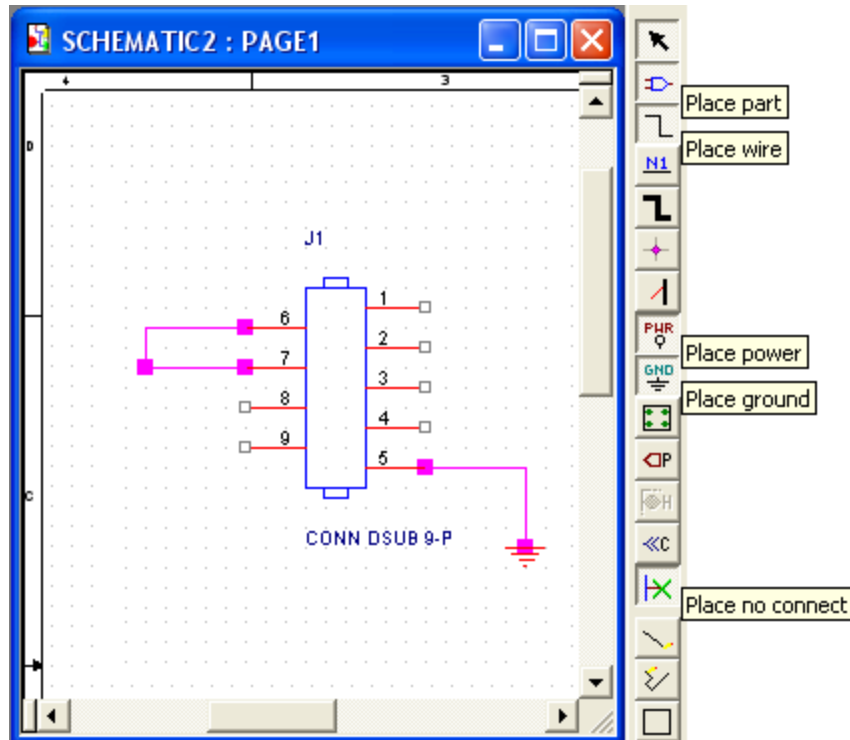

Figure 4.2: Using Capture's Schematic Editor
A basic schematic connection is shown in **Figure 4.2** from pins 6 to pin 7. The pink squares indicate the points that you will click when drawing the wire.
- Click → **Place Ground** icon on toolbar (*See Figure 4.2*)
- Click → **Place Power** icon on toolbar (**See Figure 4.2**)